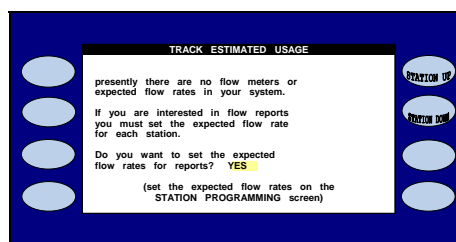

Figure 4.3
**Note:** When the selection on the screen is changed to **YES**, additional instructions will be displayed (Figure 4.3).